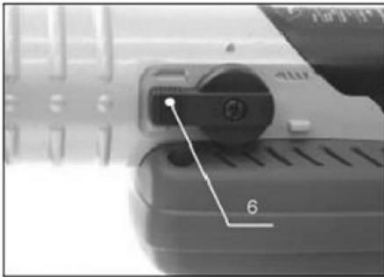

Fig. 5
- To set the stroke to the lever (pos.6. Figure 5) the impact mechanism to rotate the symbol "chisel."